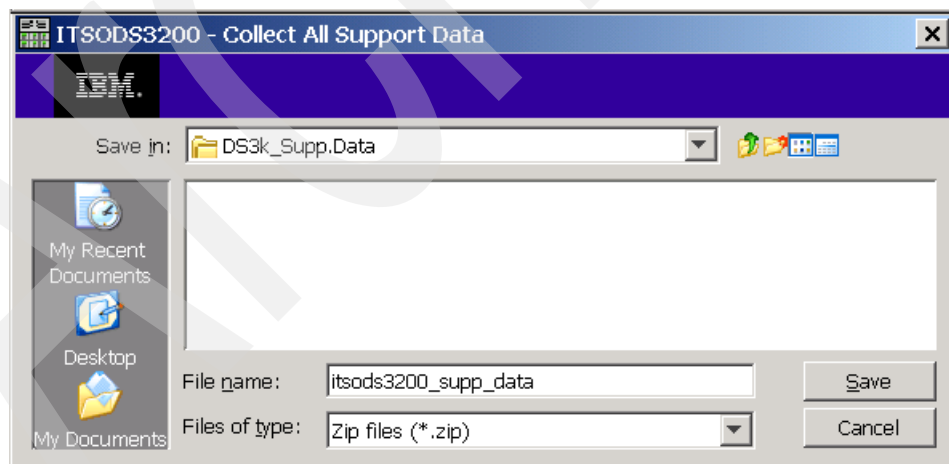

Figure 14-4 Collect All Support Data
2. Enter a directory and file name directly, or click **Browse** to select a name and location to store the file (Figure 14-4).